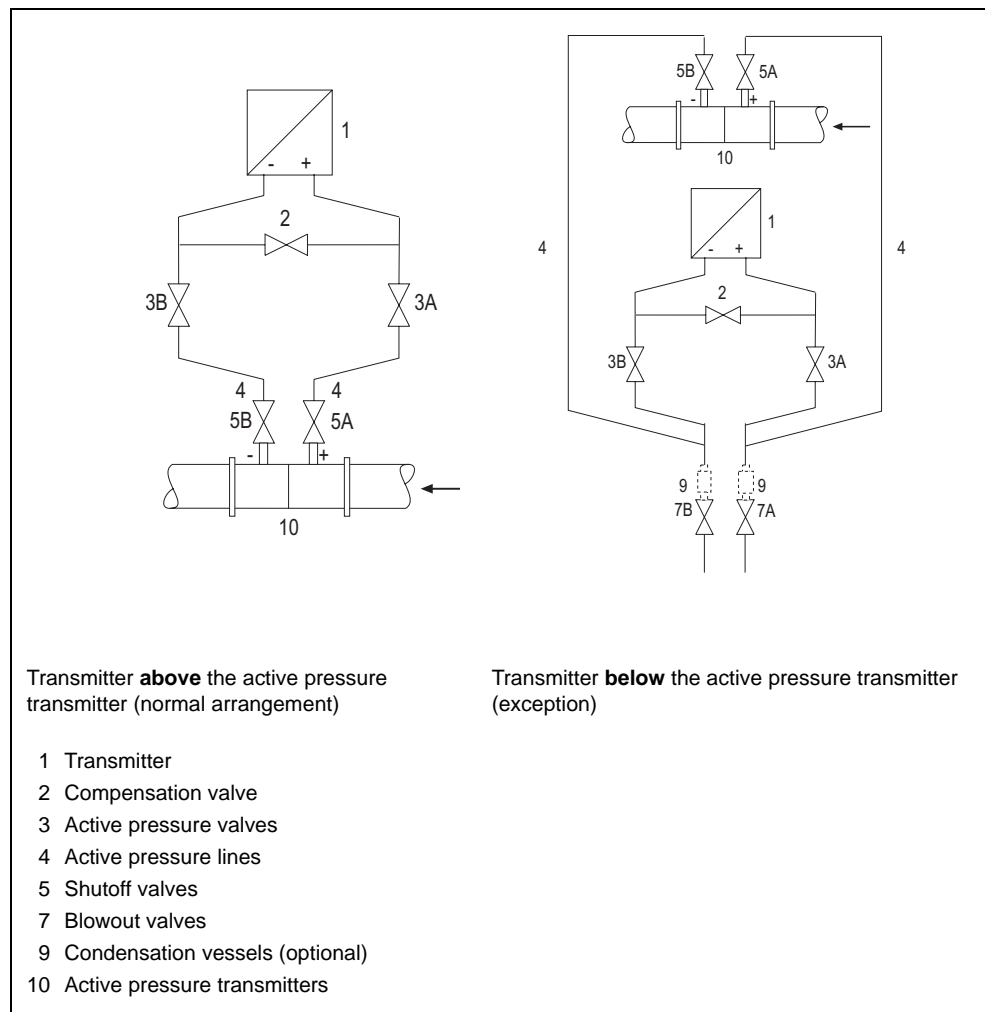

Figure 34 Measuring gases
1. Open both shutoff valves (see (5) Figure 34, page 142) at the pressure taps
2. Open the compensation valve (2).
5. Close the compensation valve (2).